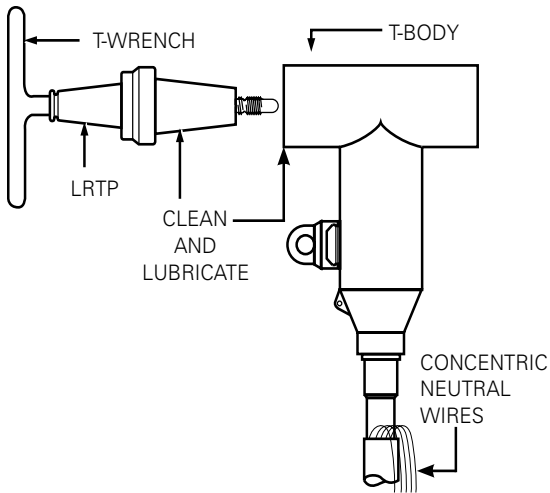

Figure 13. Line illustration of L RTP installation
- Insert threaded ferrule end of LRTP into side of T-Body opposite apparatus bushing. (Refer to Figure 13.)